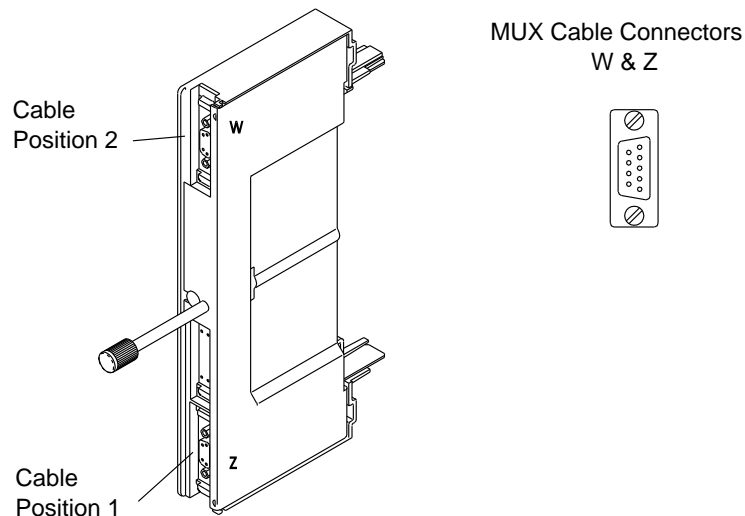

Figure 7-5. DMUX Card
- Step 3. \_\_\_\_ Locate the DMUX card in column B of each LIB1 board. (Figure 7-5 on page 7-5 shows a DMUX card.)